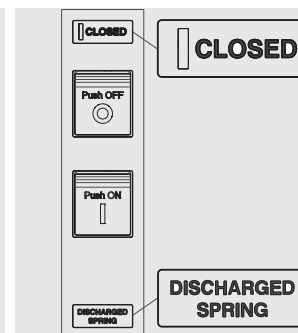

Figure 33
3. Circuit-breaker closed with springs discharged (see Figure 33).